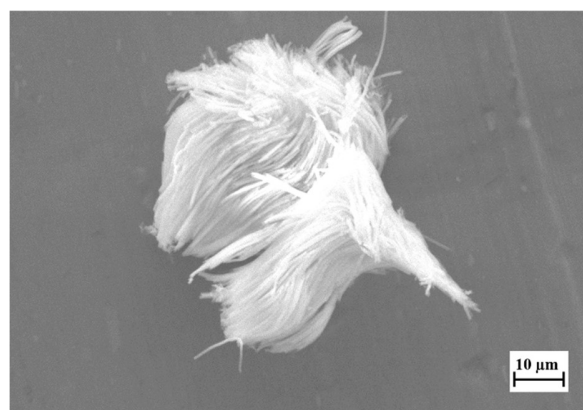

Figure S1. SEM images of 1D mSiO2 calcined at 550 °C.
- Figure S1. SEM images of 1D mSiO2 calcinated at 550 °C